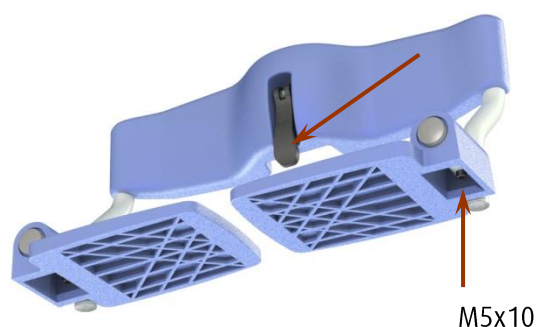

Figure 31 Older Foot rest
- Check M5x10 (bottom of plate), and replace stainless-steel screws with ELVZ 8.8 screws. (See figure 31)